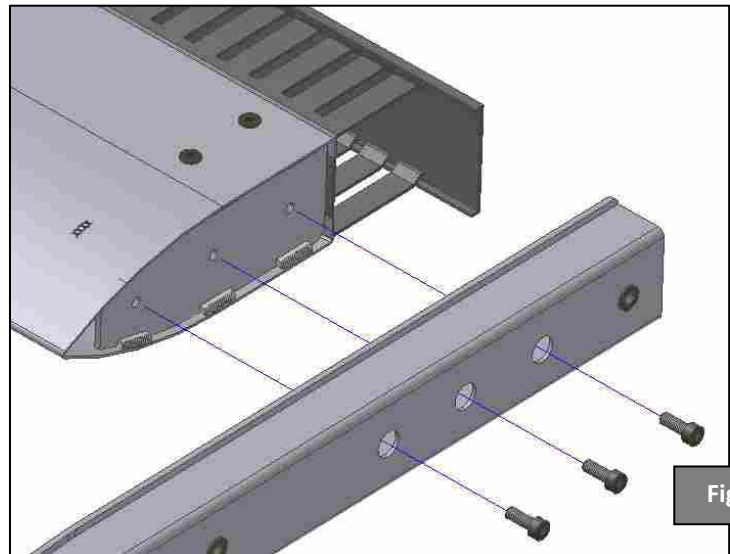

Fig 3
STEP 2 – Screw the **standard foot** tightly on to the **side** with 3 **M8x20 DIN 912 Allen screws + M8 Grover washer** (Fig.3).